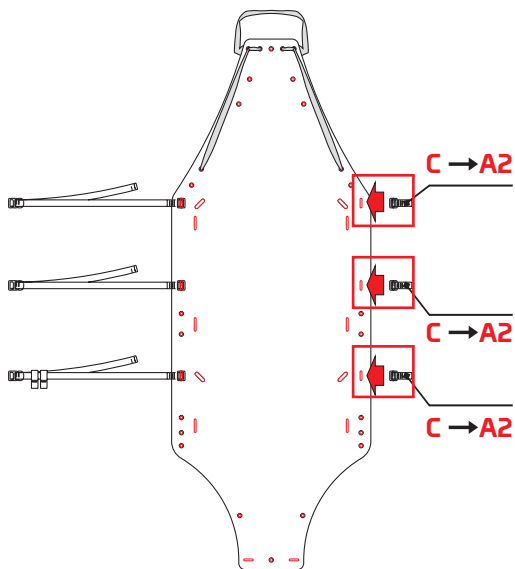

Fig.10
- Insert the slings with eyelets (C) in the A2 eyelets in the support surface (fig. 10).